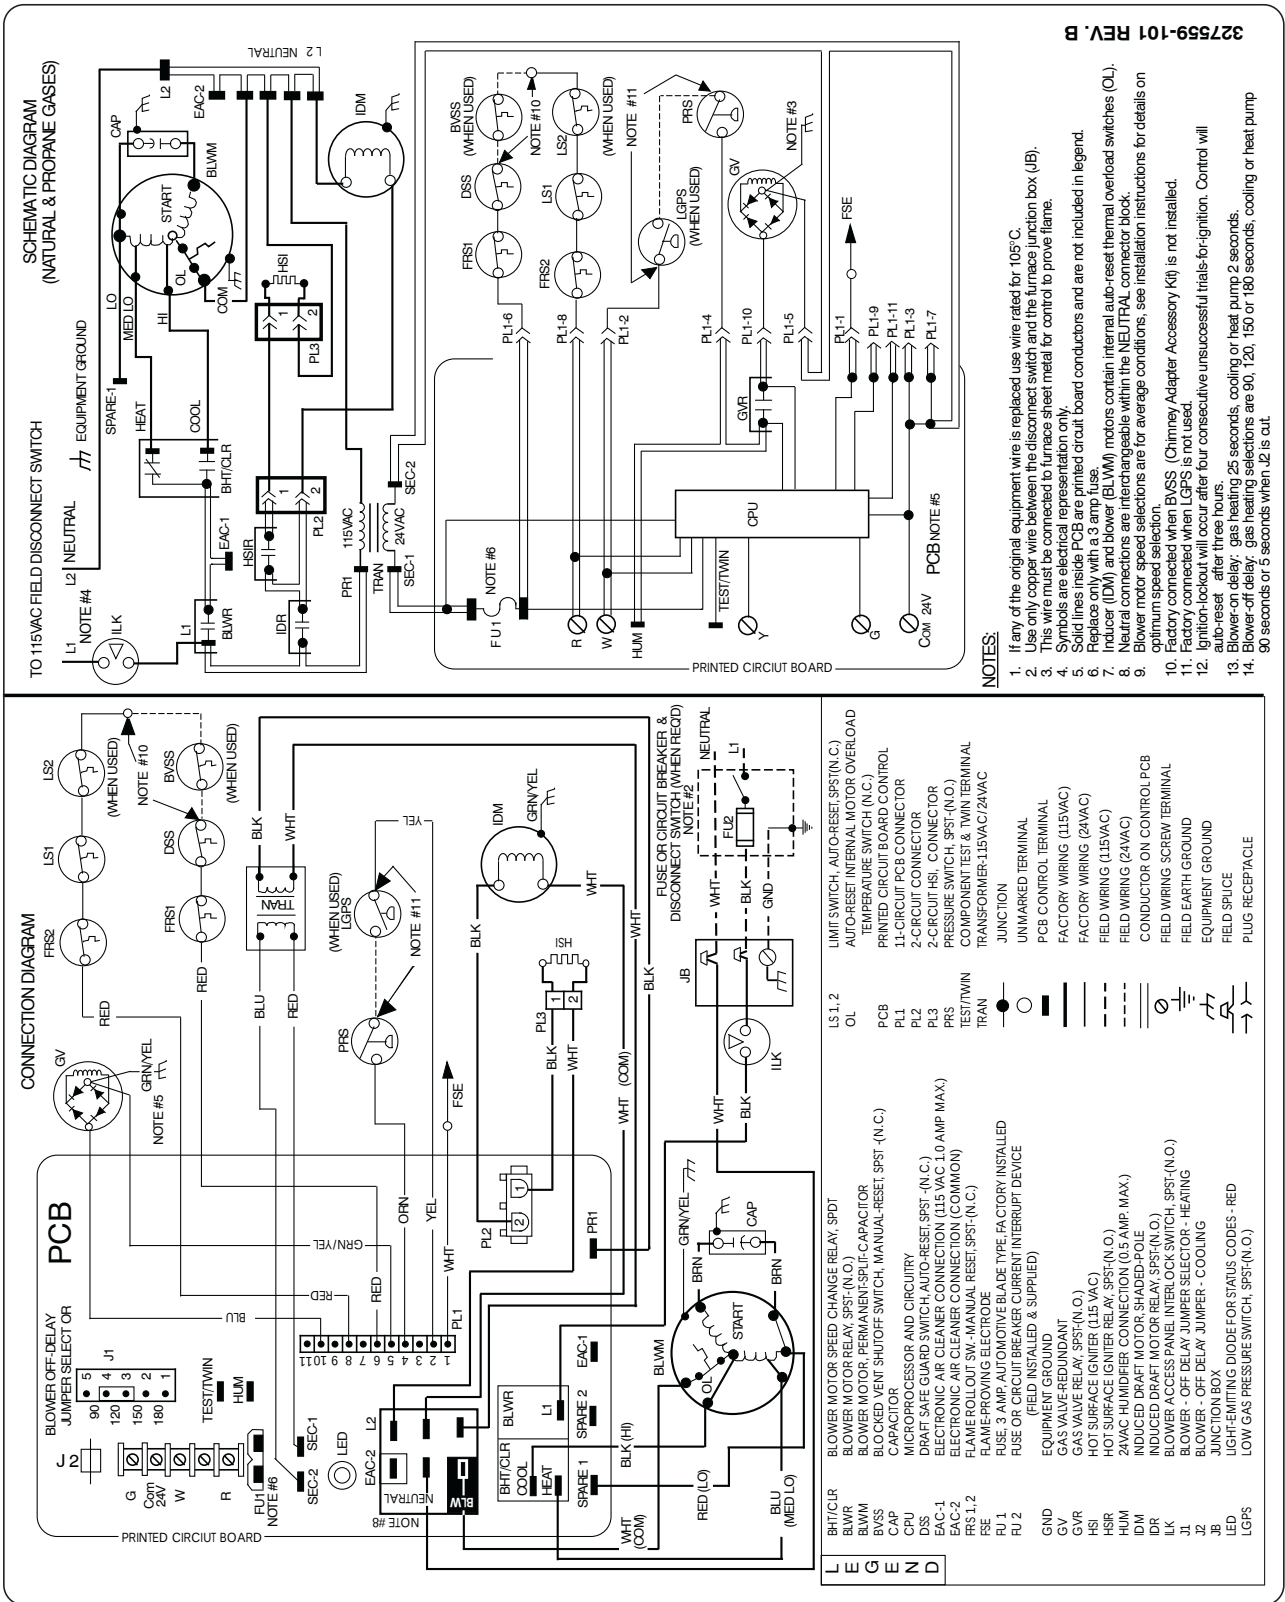

Fig. 43—Furnace Wiring Diagram
- e. To change motor speed selection for heating, remove blower motor lead from control heat terminal (See Fig. 43.) Select desired blower motor speed lead from one of the other terminals and relocate it to the HEAT terminal (See Table 8 for lead color identification). Reconnect original lead to SPARE terminal.